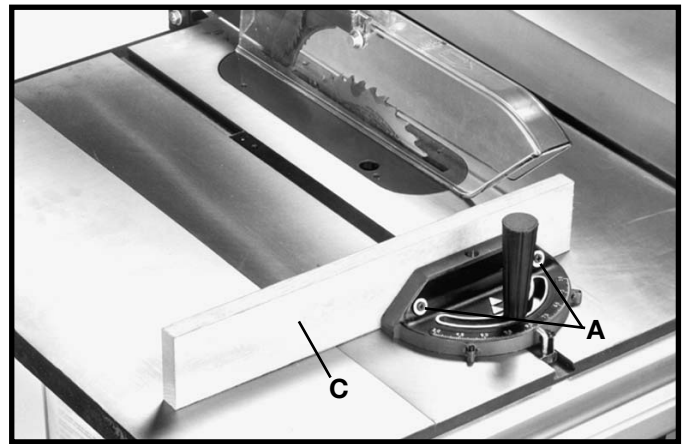

Fig. 128
For added safety and convenience the miter gage can be fitted with an auxiliary wood-facing (C), as shown in Fig. 128, that should be at least 1 inch higher than the maximum depth of cut, and should extend out 12 inches or more to one side or the other depending on which miter gage slot is being used. This auxiliary wood-facing (C) can be fastened to the front of the miter gage by using two wood screws (A) through the holes provided in the miter gage body and into the wood-facing.